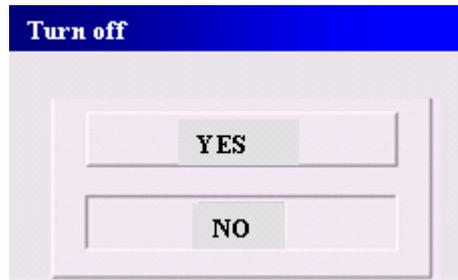

Fig. 5.10. GPR detector power off window
6. to power off the device, the red button should be pressed and held down for 5 sec. In any running mode, the power off window calls up (fig. 5.10), pressing of the yellow button selects òYESö item and brief pressing of the red button powers off the GPR detector.